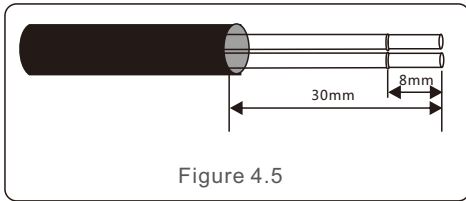

Figure 4.5
a. Strip the insulation and shield to a suitable length. Use diagram below as a guide. (in Figure 4.5).